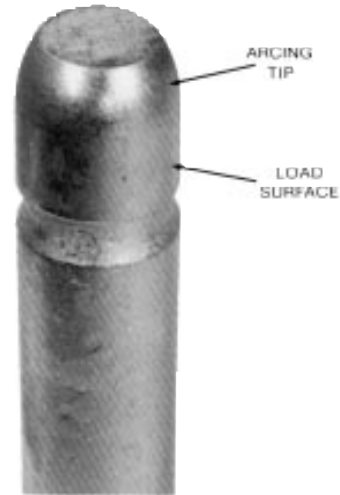

Figure 14.
4. Remove contact yoke assembly and inspect (Figure 14).